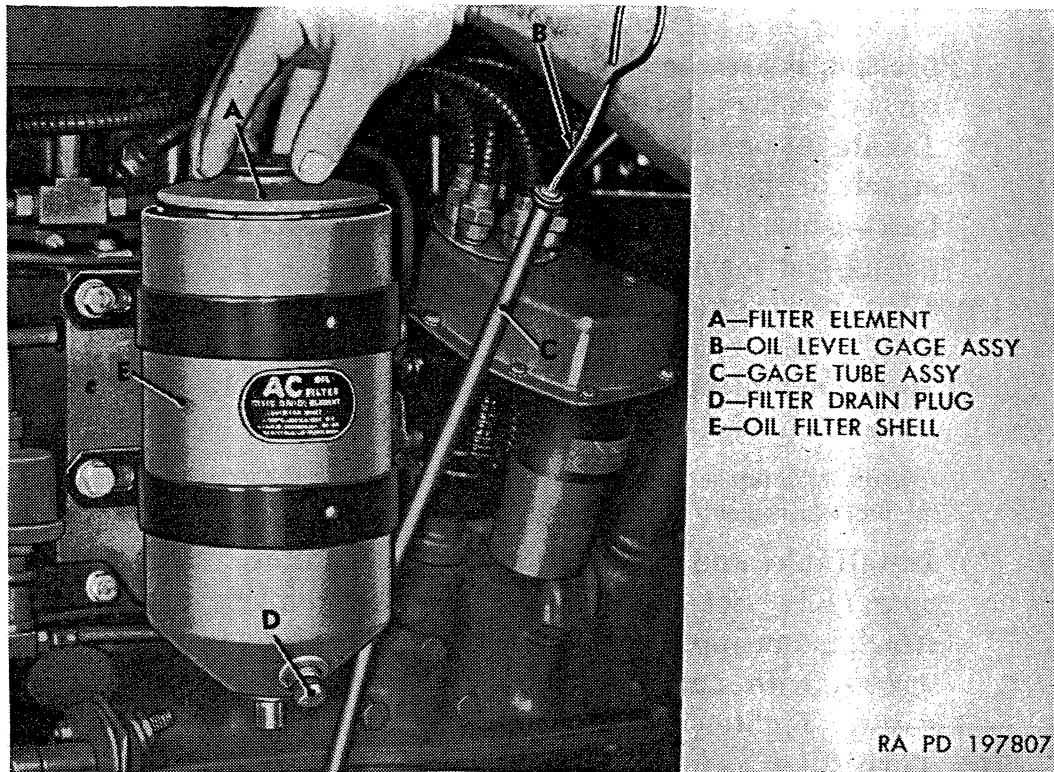

Figure 93. Installing engine oil filter element.
- (1) Set new element in place on stud, which is welded in oil filter's shell (E, fig. 93). Install cover assembly, using new gasket. Tighten locking screw into stud.
- (2) Start engine and operate for a few minutes. Stop engine and check oil level (par. 108c). Replenish to FULL mark on gage.